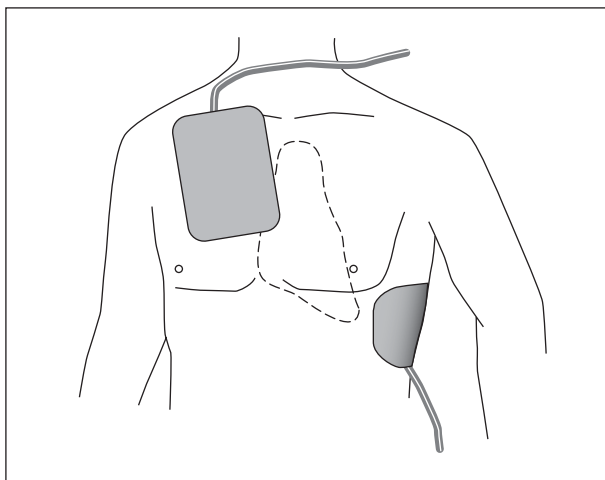

Figure 4-3. Defibrillation pad application points (patient in supine position)
- Apply the pads as shown in Figure 4-3 (STERNUM: right sternal edge at the level of the 2nd intercostal space, APEX: left axillary line at the level of the 5th intercostal space).